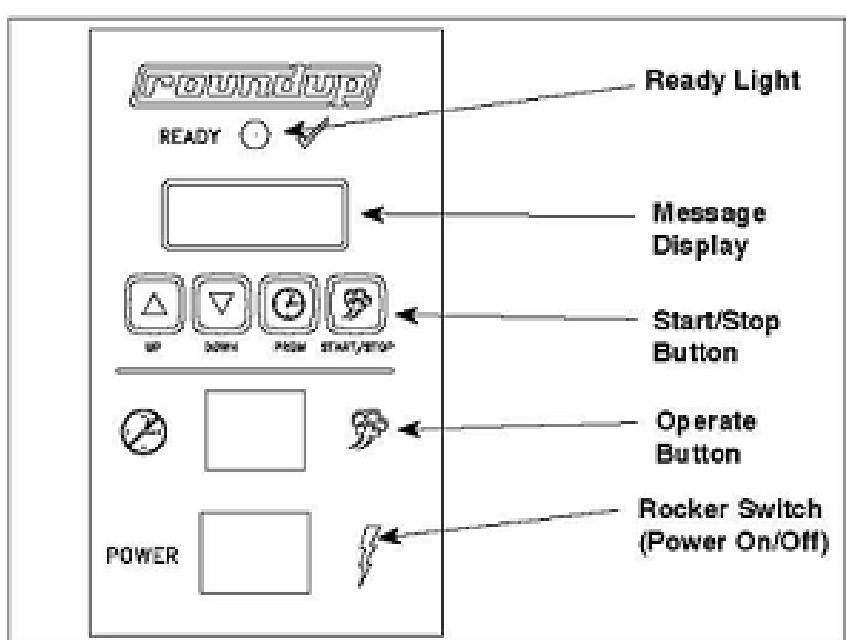

Figure 5a. Operating Controls
When the Operate button (Figure 5a) is pressed, power is supplied to the water pump (MS-150/155/355) or the solenoid valve (MS-250/255). The pump/solenoid operates and water sprays onto the heated steam generator. The water flashes immediately into live steam and shoots down onto the product.
1. Turn the Rocker Switch (power On/Off) to ON (Figure 5a).